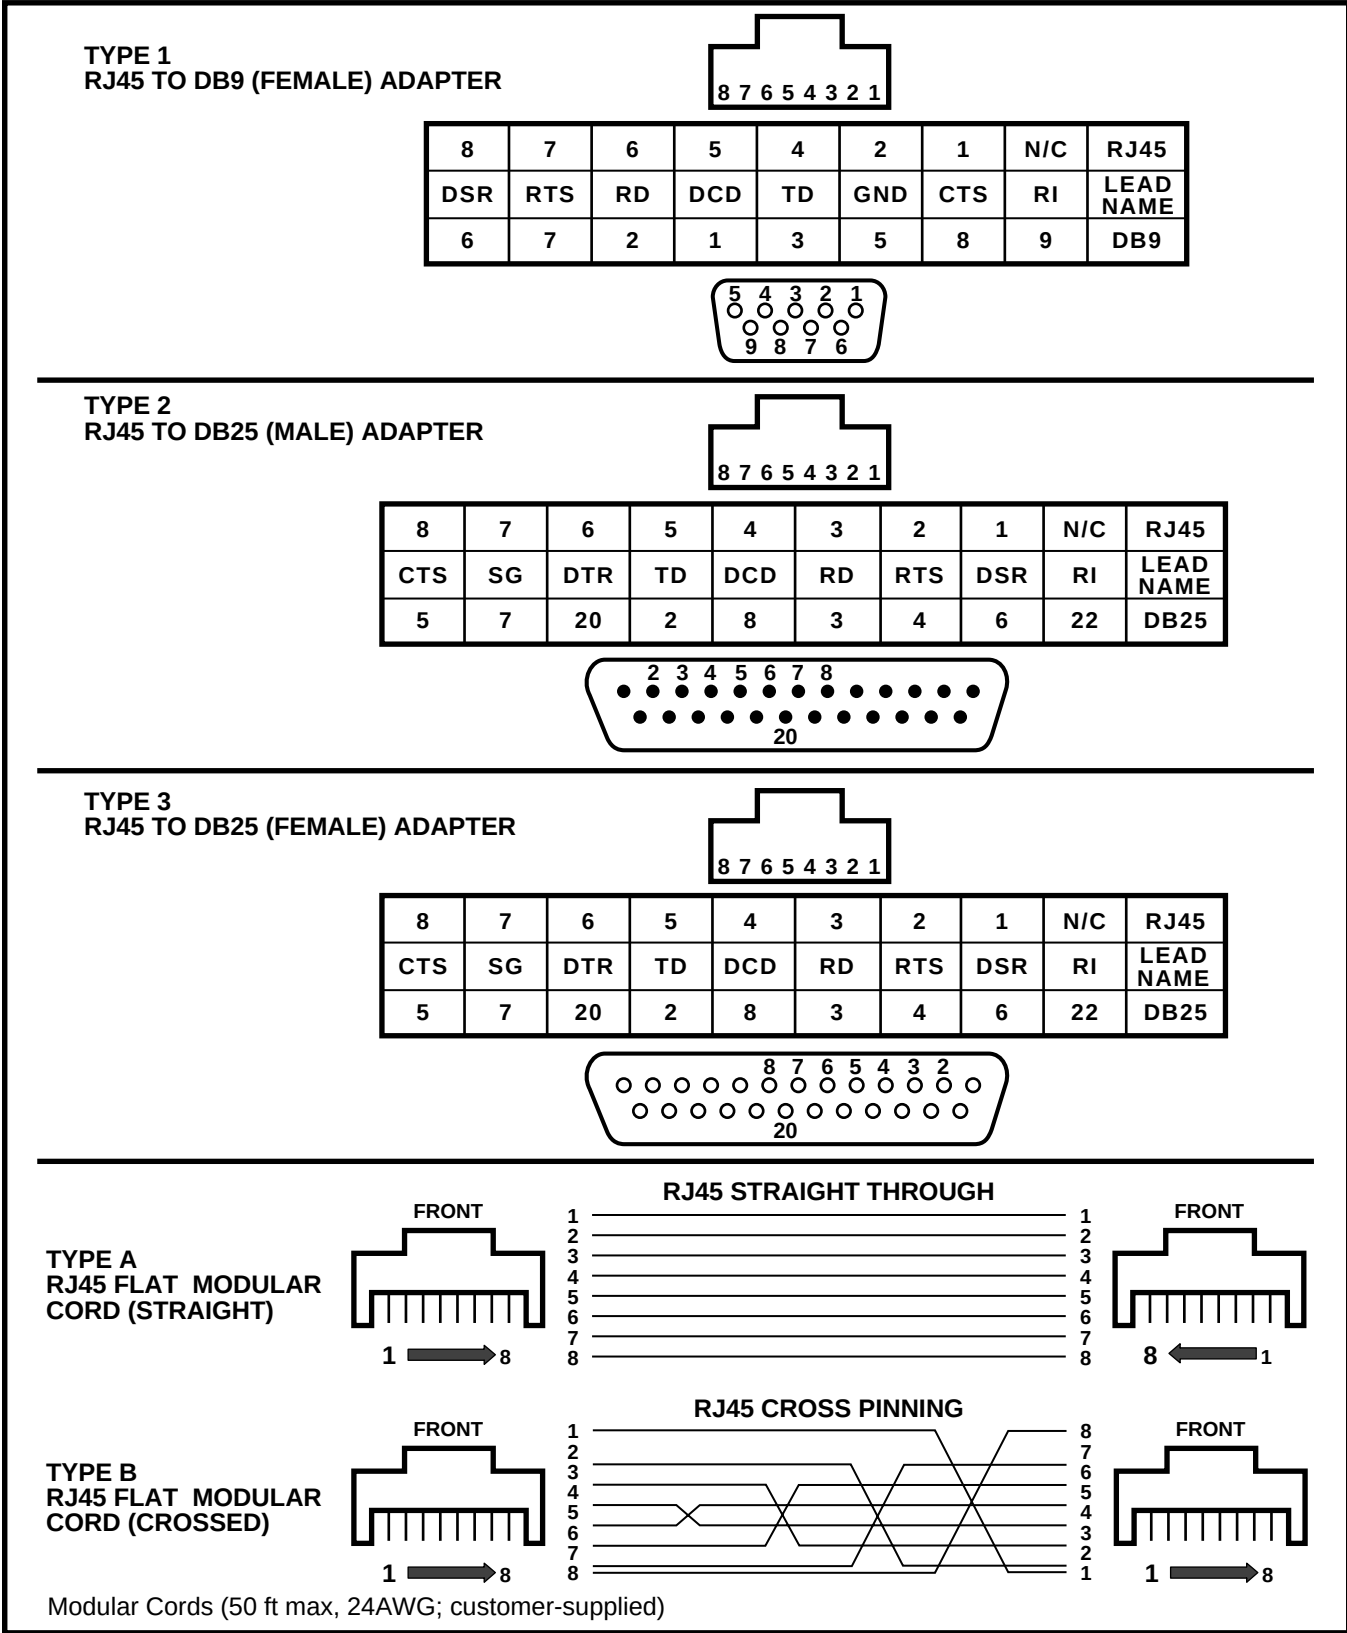

FIGURE 8-34
1. See Figure 8-34 for detailed pin out information of modular cords and adapters.